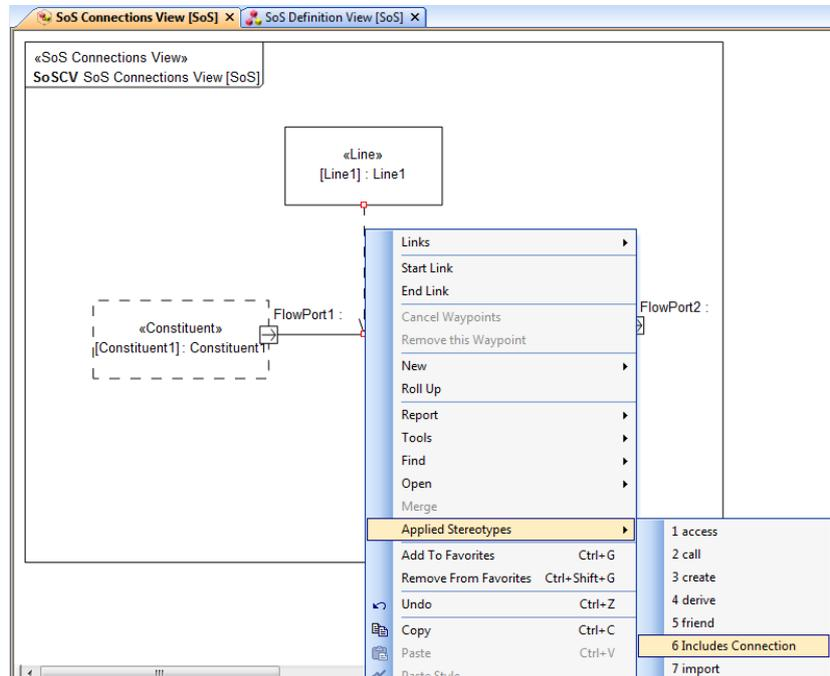

Figure 12: Apply the *Includes Connection* stereotype to the dependency
2. Right-click on the new dependency and select “Includes Connection” from the “Applied Stereotypes” menu as shown in Figure 12